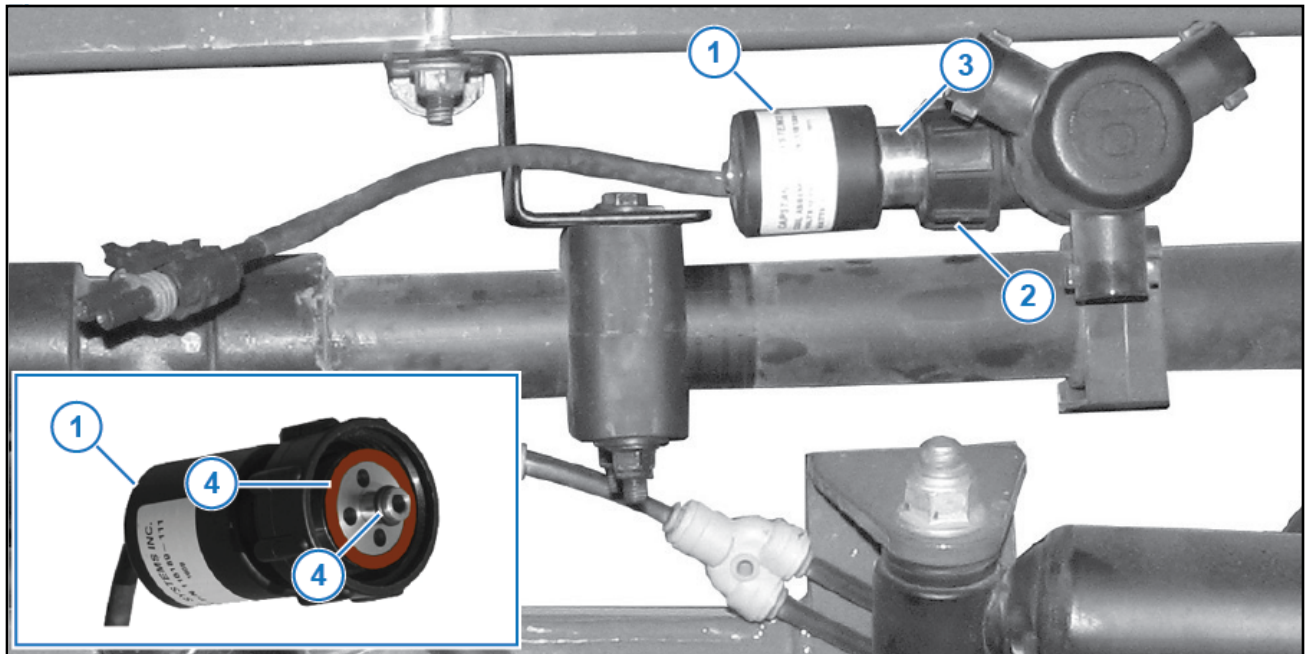

Figure 31: Nozzle Valve Leaks
18. If the coil housing (Figure 31, Item 1) spins, tighten the fly nut (Figure 31, Item 2) until the coil housing does not spin.
19. If the coil housing does not spin, remove the nozzle valve (Figure 31, Item 3).
20. Inspect the O-rings (Figure 31, Item 4). If an O-ring is damaged, replace the O-ring.